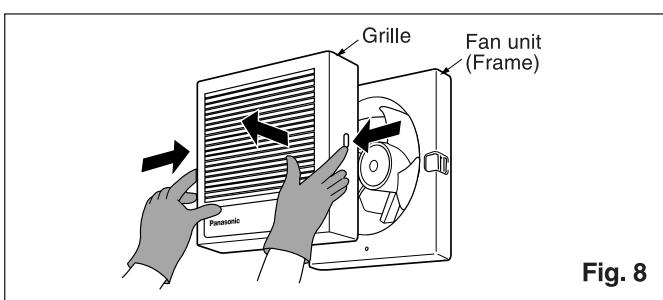

Fig. 8
Press the spring locks on the sides and pull the grille back. (Fig. 8)
12. Remove the grille from the fan unit. (Fig. 8 on page 6)